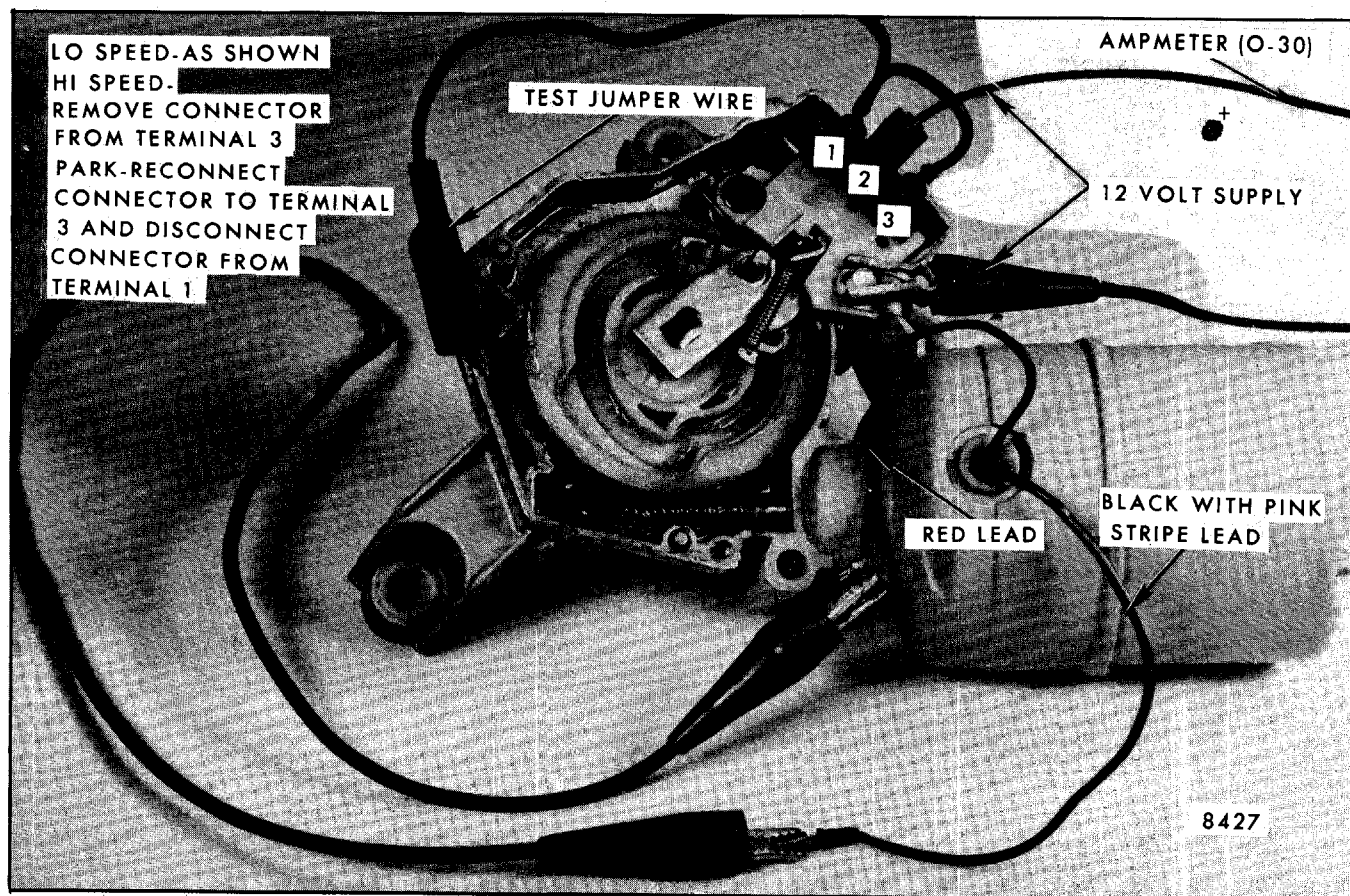

Fig. 2-88-Modified Pulse Motor Bench Operation Test
2. If wiper gear drive pawl is in full park position (Fig. 2-91), operate the motor as required to move pawl out of relay slot (Fig. 2-88).
6. Refer to Figure 2-88 and operate wiper to park position, then reinstall washer pump. Refer to reassembly of washer to wiper gearbox (Fig. 2-91).
7. Refer to Figure 2-88 and operate wiper to park position; then position crank arm on output shaft flat so that it points in the direction shown in Figure 2-97. Next, install crank arm retaining nut fingertight.